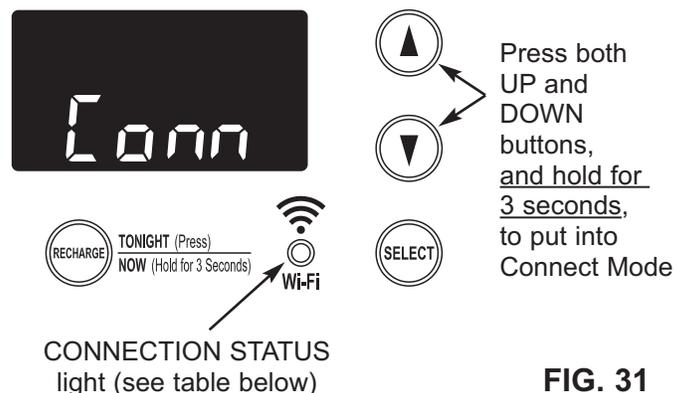

FIG. 31
3. On the water softener's front panel (see Fig. 31), press both the **▲ UP** and **▼ DOWN** buttons, and hold them for 3 seconds.
4. Release the buttons when “Conn” appears in the display (See Fig. 31) and the connection status light begins flashing amber.